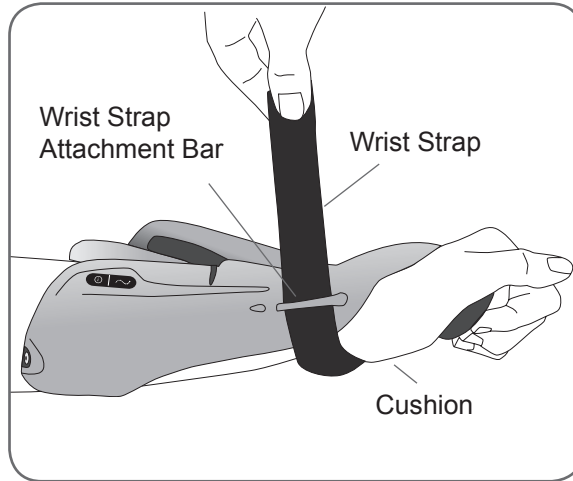

Figure 8-14: Attaching the wrist strap.
8. Pull the wrist strap up and through the wrist strap attachment bar. See Figure 8-14.